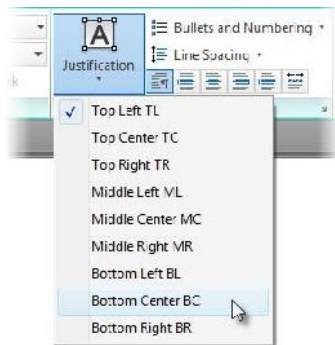

FIGURE 12.61: Setting the Justification for the centerline symbol
5. From the flyout menu that appears, click Bottom Center BC (see Figure 12.61).